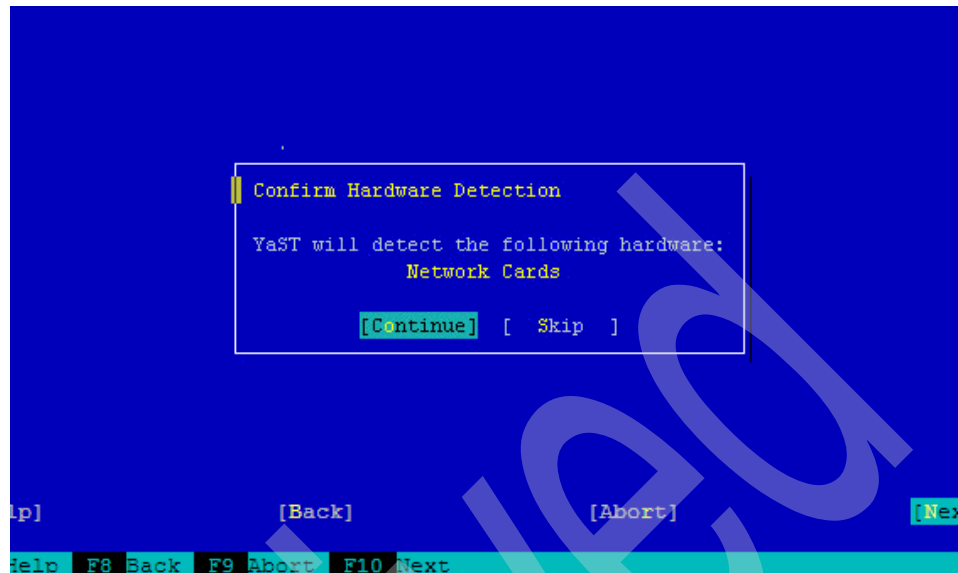

Figure 9-24 Confirm hardware detection window
17. After booting from the appropriate storage device YaST will start again. Select **[Continue]** for each hardware device YaST detects, as shown in Figure 9-24 on page 378.